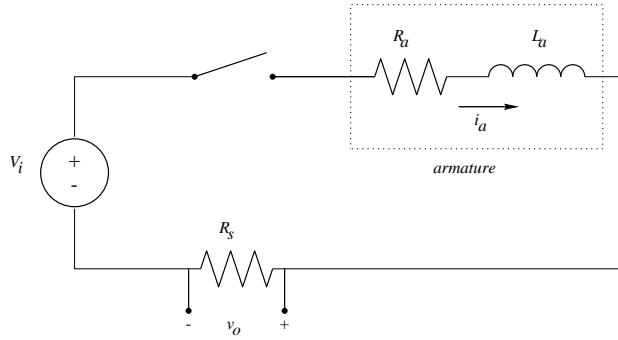

Figure 4.4: Motor Electrical Diagram with flywheel clamped.
- (a) The DC motor, *with the flywheel clamped* ( $\omega = 0$ ), is described by the electrical schematic of Figure 4.4.